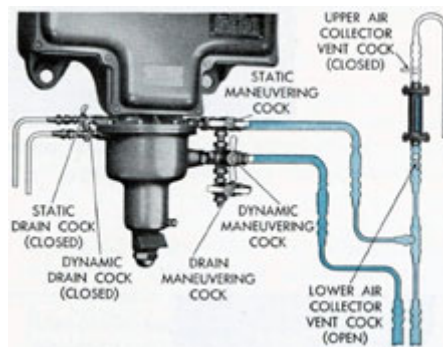

Figure 13-2. Maneuvering cocks and drain cocks in zero position.
**13A4. Setting the C-adjustment.** (See Figures 13-2 and 13-3.) The C-adjustment mechanism consists of a micrometer assembly which connects the bellows rod with the main balance arm. This micrometer is a means of
adjusting the master transmitter indicator so that the speed pointer will point at exact zero on the dial. Setting the C-adjustment is accomplished in the following manner: Set the valves to the zero position as shown in Figure 13-2. Thoroughly vent the hydraulic system as described in Section 11A5. If the speed